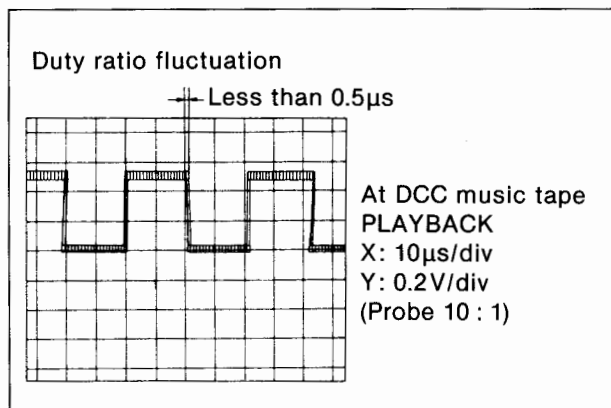

Fig. 1
1. Connect an oscilloscope to **IC503 pin ③⑩** on the **digital P.C.B.**
2. Load a **DCC music tape** into the unit under test and put the unit in **PLAY mode**. When the capstan servo is locked, a **square wave with a duty ratio fluctuation of less than 0.5μs** will be observed on the scope (see Fig. 1). Unlock the servo and verify that the muting function is active.